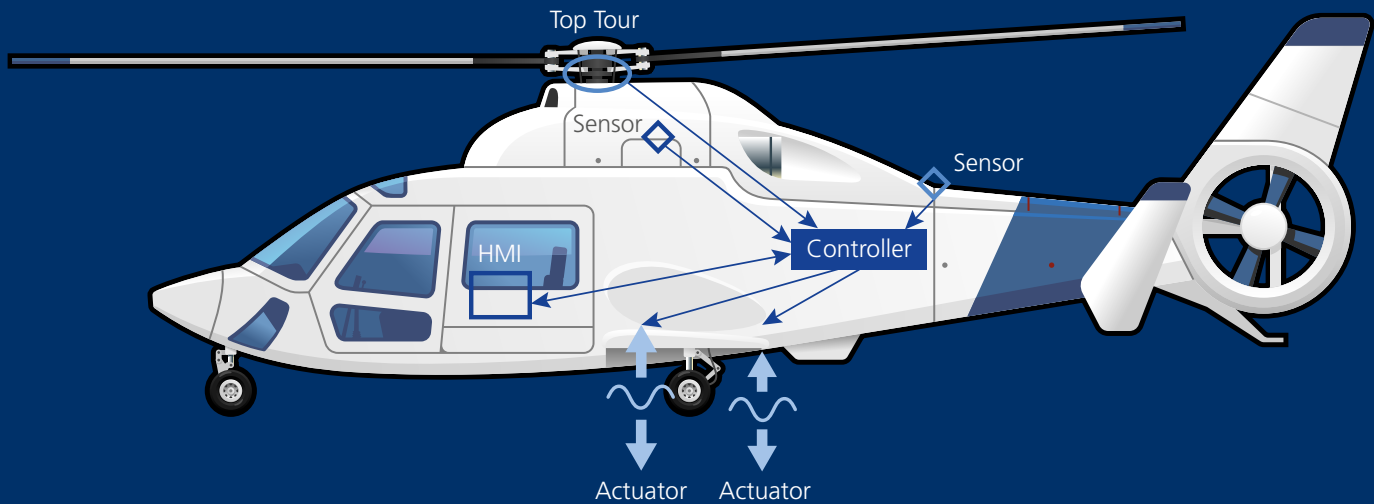

Figure 1: AVCS technology overview.
**T**hroughout the last years, Hutchinson's focus has moved from providing customized components to selling fully integrated systems. This strategic trend led to the development of the active vibration control system (AVCS) technology for rotary wing machines, among other things. This technology attenuates the blade-passing frequency vibrations that are felt by rotorcraft pilots and passengers because aerodynamic loads are applied to the blades and transferred to the fuselage. The AVCS is based on several dynamic force generators (actuators) that are integrated in the fuselage, accelerometers distributed across strategic points in the fuselage, a rotor speed sensor providing the reference time, and an onboard real-time controller that analyzes the vibration signals and adapts the output signal to the actuators (adaptive control algorithm). Pilots control the system through a human-machine interface (HMI) with status indicators ('system failure' or 'system ready') and commands that enable vibration control or let the pilot select the comfort mode. All AVCS subsystems are complex mechatronic control systems of proprietary Hutchinson design (figure 1). The actuators are powered by the primary rotorcraft power supply (115 V). Electric unit conversion is performed in the controller.